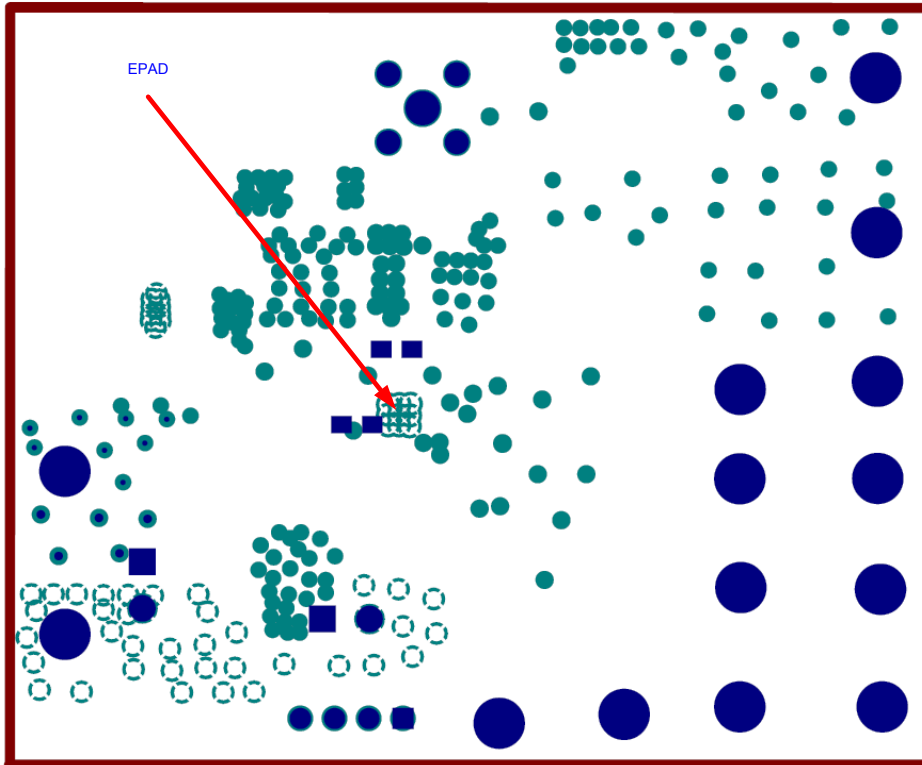

FIGURE 11. 4 LAYER - INTERNAL LAYER 3 SHOWING EPAD CONNECTION
4. ISL9492's EPAD is connected to an internal ground plane. This ground plane is connected to the top layer with multiple vias right under C1 and C2 ground connection (see Figure 11).